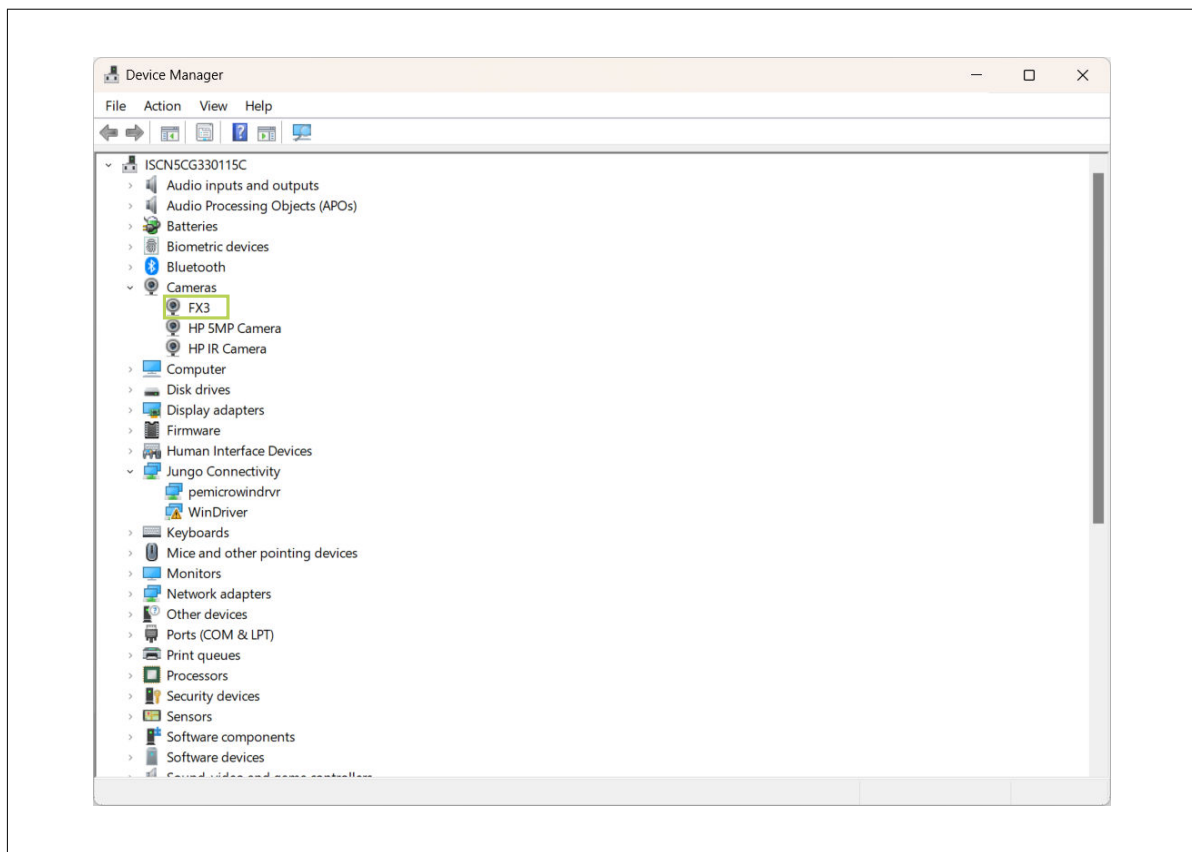

Figure 48 EZ-USB™ FX3 coming under Camera in Device Manager
8. If you remove the X502 jumper from your board, you will see the **FX3** device under the **Camera** section in the Device Manager, as shown in Figure 48. Before or after removing the X502 jumper, disconnect and reconnect the power to the kit to see the device under these tabs in the Device Manager